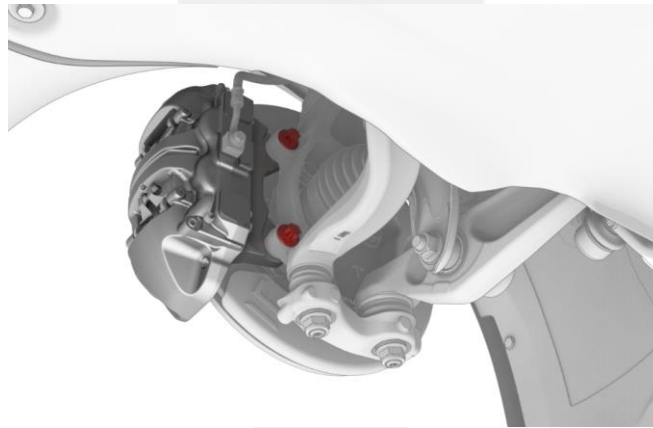

Figure 2 – Front caliper shown; rear caliper similar
**NOTE:** If using Warp Service, note damage in the “Cause Narrative” field of the Repair Order (RO).
5. Inspect the LH front brake caliper mounting bolts (Figure 2).